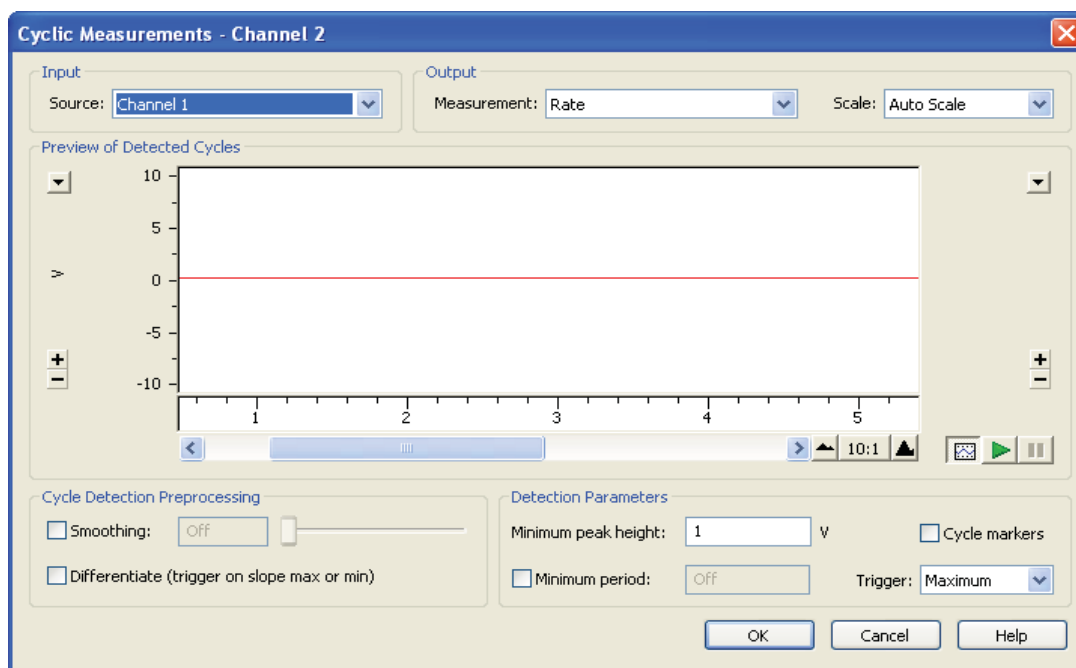

Figure 1: Cyclic Measurements dialog
3. The Cyclic Measurements dialog window will appear (Figure 1)